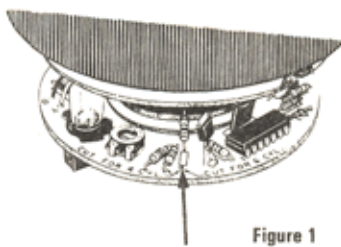

Figure 1
Changing from 8 cylinder to 6 or 4 cylinder engine applications is accomplished by clipping one resistor for 6 cylinders or two resistors for 4 cylinders as shown in the illustration, Figure 1, and indicated on the circuit board.
2. Your tachometer, as previously noted, is calibrated for operation on 8 cylinder engines. If the installation is to be made on a vehicle with a 6 cylinder or 4 cylinder engine, remove the rear housing and make the necessary change as described in the illustration, Figure 1; install the sleeve on the lead wires and carefully work the end next to the housing through the lead wire hole. This can be simplified by cutting one end of the sleeve on an angle of approximately 45° as illustrated in Figure 2 before installing sleeve on lead wires. Then proceed to Step 3.